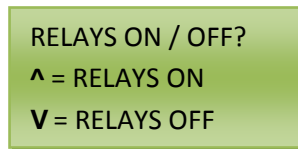

Figure 13.2
- a. This Action will allow all the relays to be turned ON or OFF. This should be done when setting up the system – it helps determine that Time-Keeper® is communicating properly. To Test the Relays, press the UP or DOWN Arrows. See Figure 13.2 for a visual example.